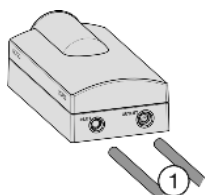

Fig. 55
- ▶ On the thin hose, measure the insertion depth (E) of 21/32 " (17 mm) and mark it.
- ▶ On the thick hose, measure the insertion depth (E) of 25/32 " (20 mm) and mark it.
- ▶ Insert the hoses *Fig. 55 (1)* all the way into the water filter module (i.e., up to the mark you made), past the point of resistance.